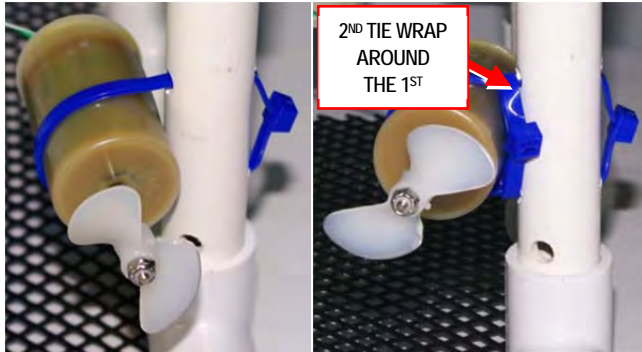

Figure 2.6-5: One Heavy-Duty Tie Wrap Holds the Thruster to the Pipe, and a Second Tie Wrap Tightens the First to Secure the Thruster Tightly to the Frame
2. Place the appropriate thruster in the loop formed by each tie wrap, and tighten the tie wrap around the thruster, as shown in Figure 2.6-5. Refer to Table 2.6-1 for thruster placement. Be sure to mount the vertical thruster with its propeller pointing upward.